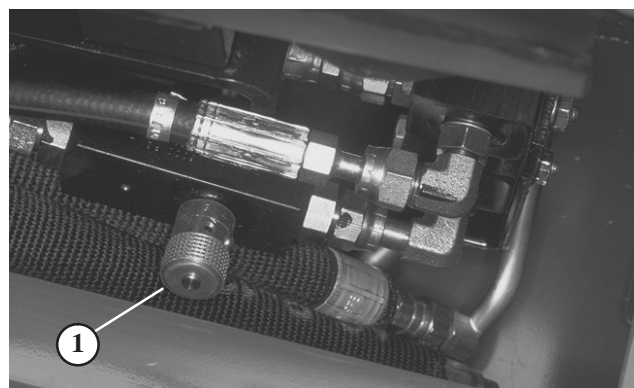

Figure 64
1. Raise hood and locate valve on left rear side of machine (Fig. 64).